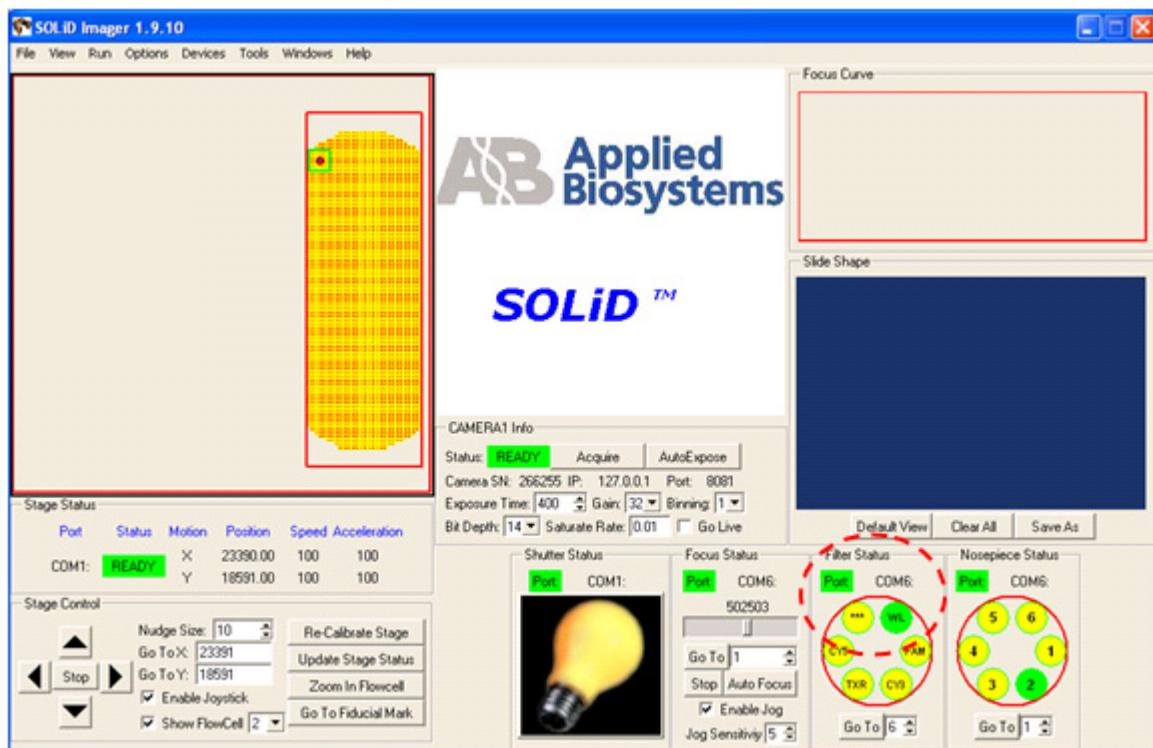

Figure 78 Click **WL** (white light) to set the Filter Status.
1. Set the Filter Status to **WL** (white light; see Figure 78).